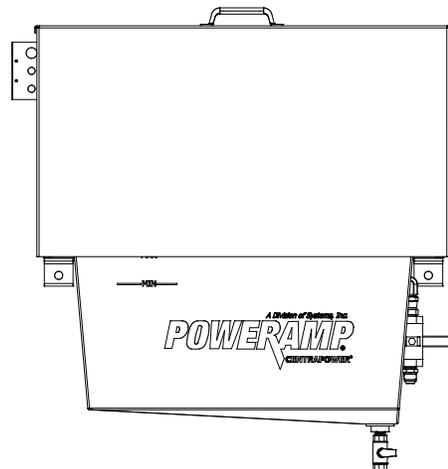

Figure 35
2. Momentarily press the ENGAGE button. Hook should lower, fully extend, fully raise, partially retract, lower, and then fully retract. See Figure 35.